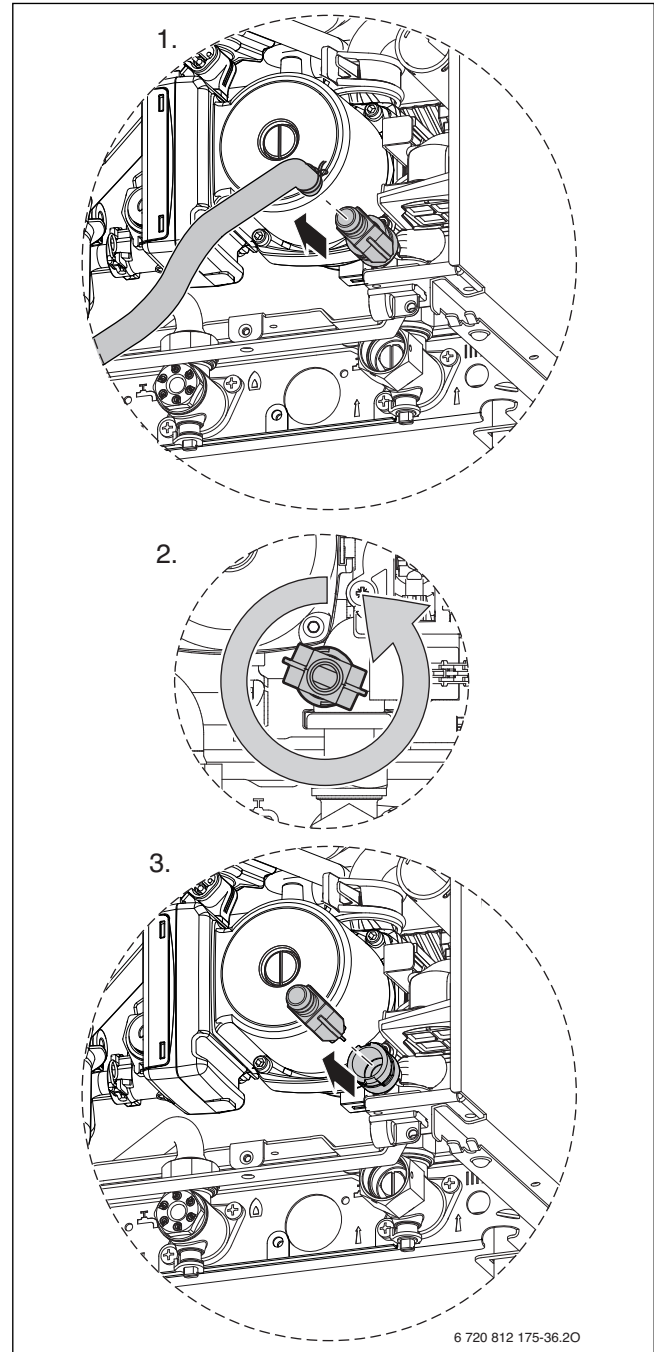

Fig. 94 Drain tap removal
- ▶ Disconnect drain pipe from drain tap (see e. g. step 1 in Fig. 94).